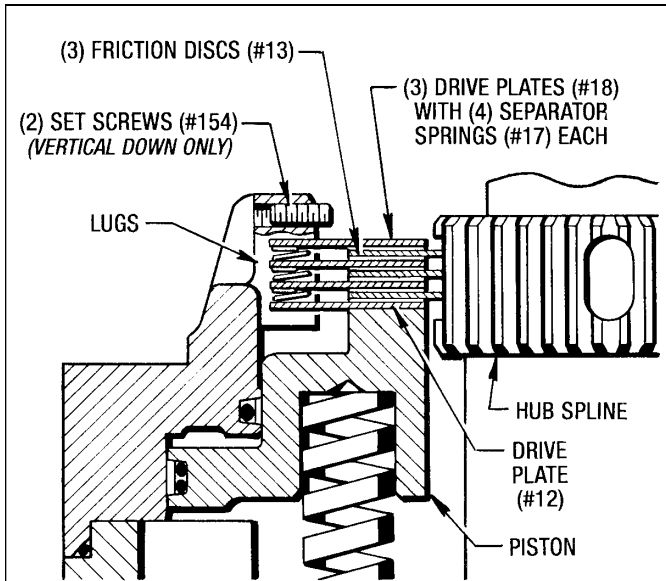

Figure 9.10 - Brake Stack - Vertical Brake
First install a Drive Plate (#12), then a Friction Disc (#13), then a Drive Plate (#18) with (4) Separator Springs (#17) on it pointed downward. There will be a total of (3) Drive Plates (#18) with (4) Separator Springs (#17) each, (3) Friction Discs (#13) and (1) Drive Plate (#12). (See Figure 9.10)
- (1) Align the teeth in the Friction Discs (#13) with the spline teeth of the Hub (#2) and the notches in the Drive Plates (#12) and (#18) with the (4) lugs on the Piston Housing (#10).
- (2) The **Vertical Down Brake (MB-210-496)** will also have (2) Set Screws (#154) in two of the brake lugs. After the Brake Stack is installed apply some **Blue Loctite #272** to the screws and tighten them up enough to retain the stack. (See Figure 9.10)